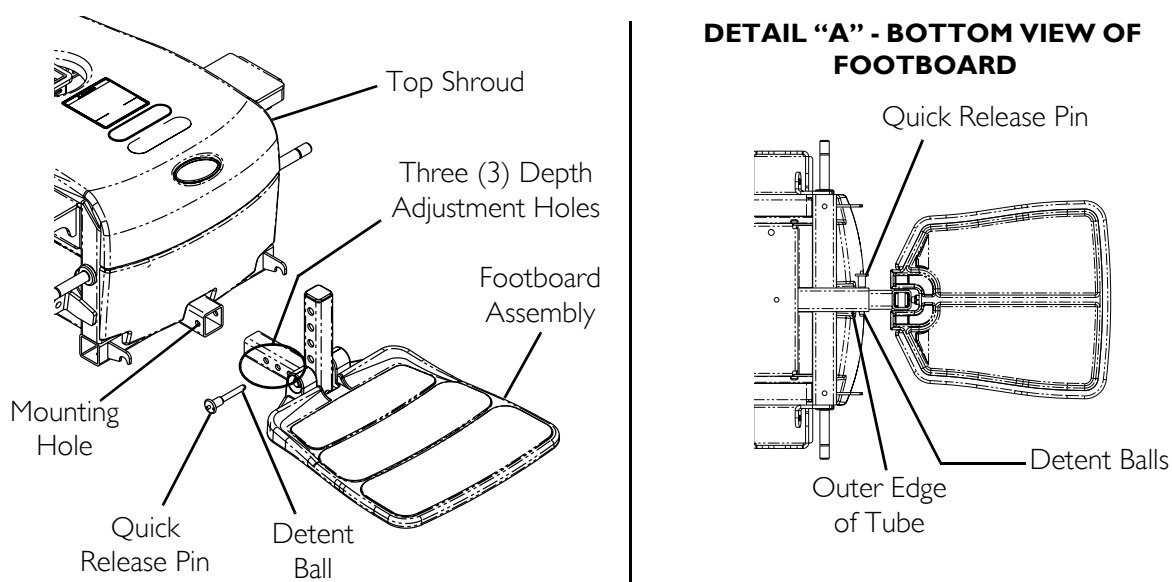

FIGURE 8.1 Adjusting the Footboard Assembly - Depth
2. Adjust footboard to one (1) of three (3) mounting positions.
3. Install the quick release pin. Make sure the detent balls are engaged with the outer edge of the tube (Detail "A" of FIGURE 8.1).